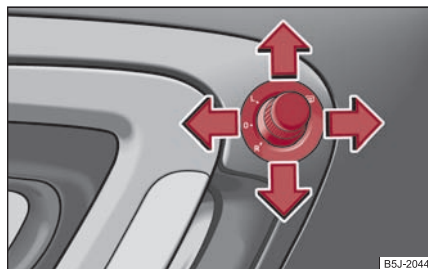

Fig. 63 Inner part of door: Rotary knob
- Turn the rotary knob to position  ⇒ **fig. 63**.